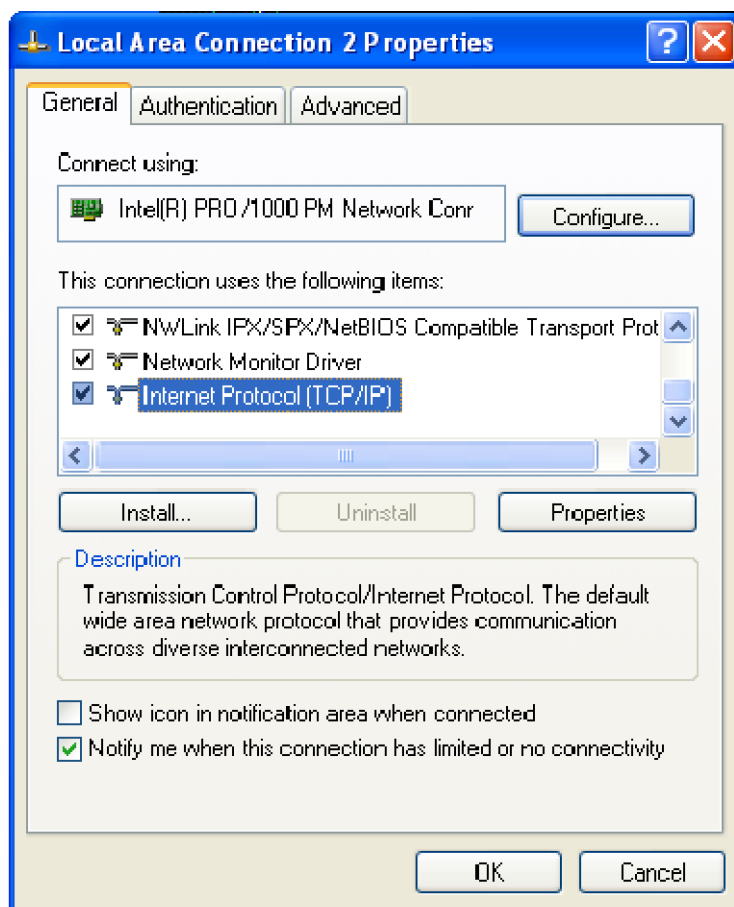

Figure 6: LAN Connection dialog box
2. Right-click the Local Area Connection icon that corresponds to your local LAN card and select **Properties** from the menu. The Properties dialog box appears. (See Figure 6.)